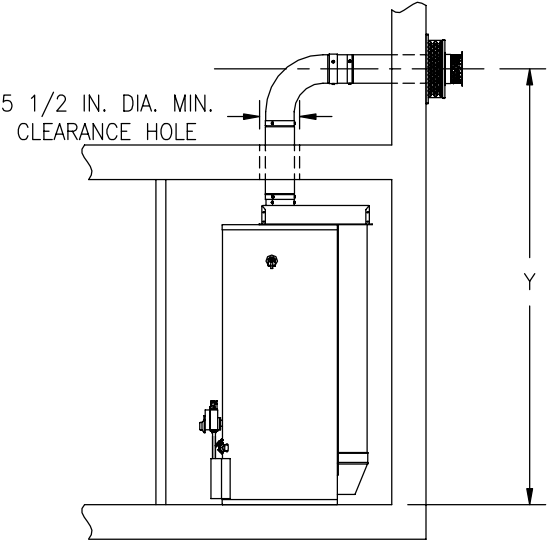

Figure 3
1. If applicable, cut a 5-1/2 inch (13.6 cm) diameter minimum clearance hole in the ceiling where the telescopic vent-air intake tube(s) will pass through. (See Figure 3).